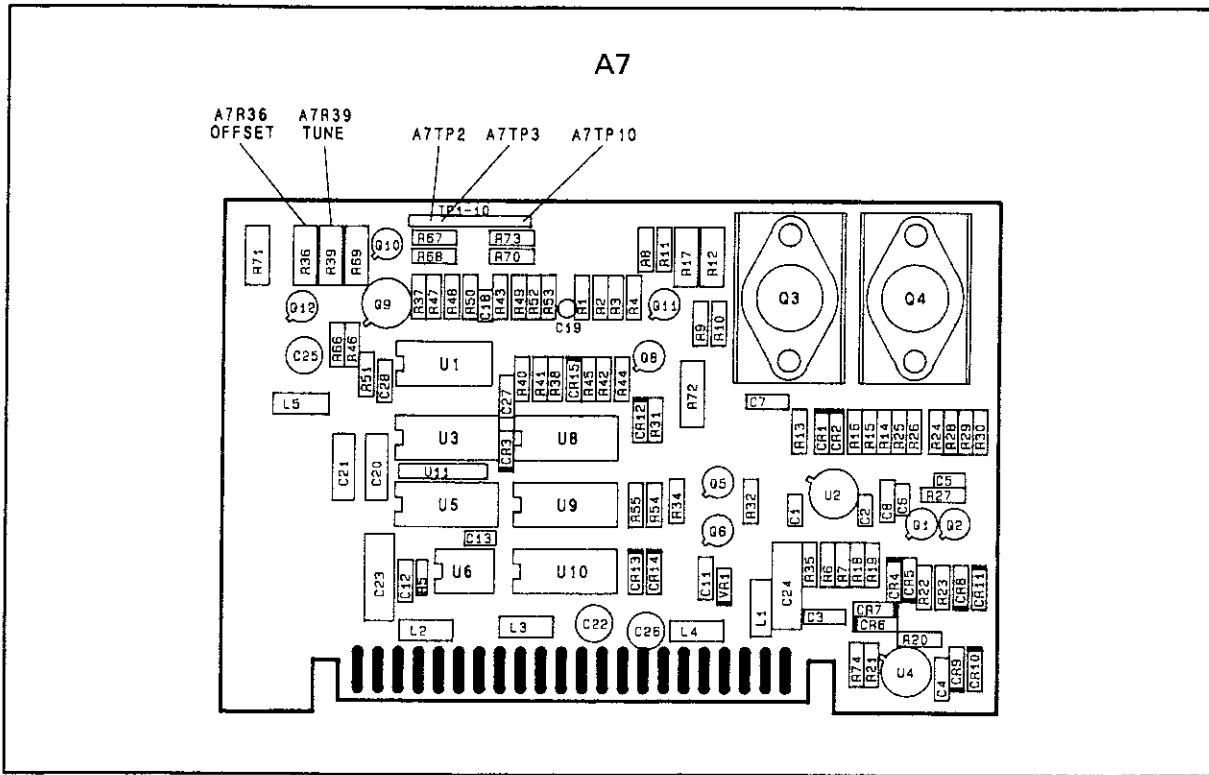

Figure 5-4. A7 Adjustment Locations
4. Connect the DVM to A7TP3 (Figure 5-4). Connect ground to A7TP2. Preset potentiometer A7R36 fully CCW.